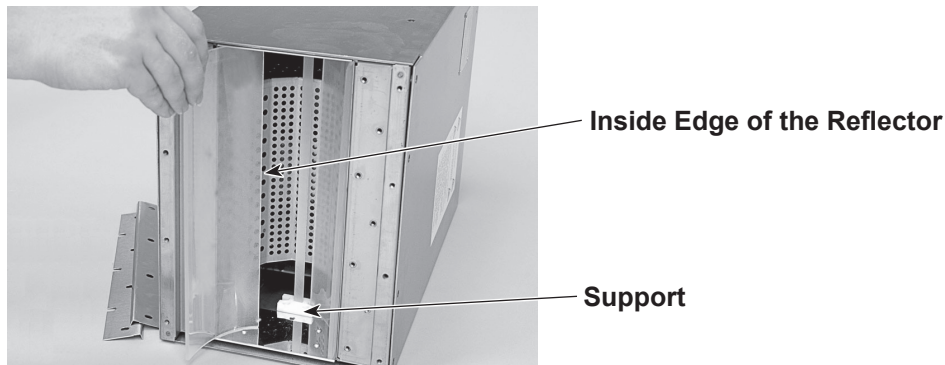

Figure 6-9 Reflector Removal and Replacement
5. See Figure 6-9. Carefully slide the two reflectors from the lamphead base.